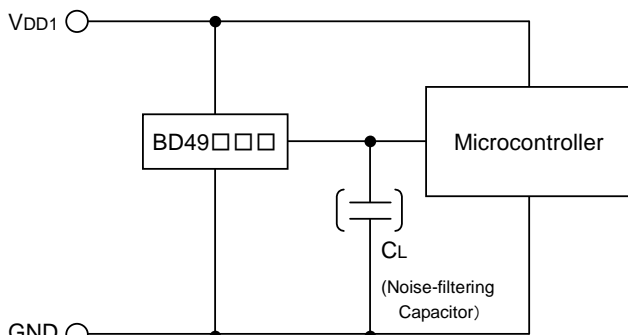

Fig.2 CMOS Output Type
The power supply of the microcontroller (VDD1) is same as the power supply of the reset detection (VDD1). Use CMOS output type (BD49□□G/FVE) or open drain output type (BD48□□G/FVE) attached a load resistance (RL) between the output and VDD1. (As shown Fig.2)